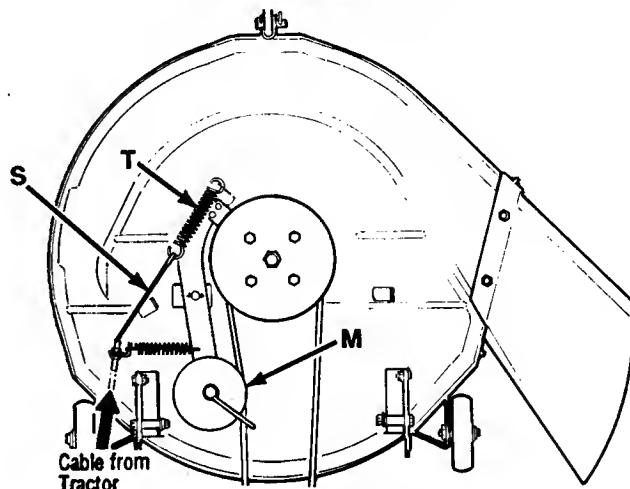
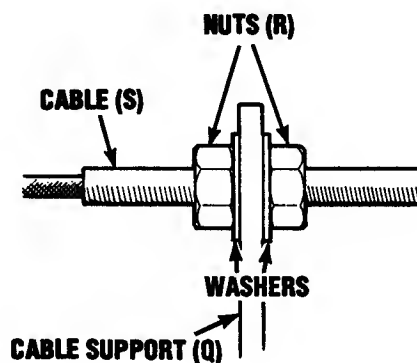

Fig. 18
Fig. 20
With mower lift lever (See page 18, Item I) in the disengaged position, adjust cable (S, Figs. 18, 20, & 21) at nuts (R, Fig. 20) until all slack in cable has been taken up. WHEN ADJUSTED, SPRING (T) SHOULD NOT BE UNDER TENSION.